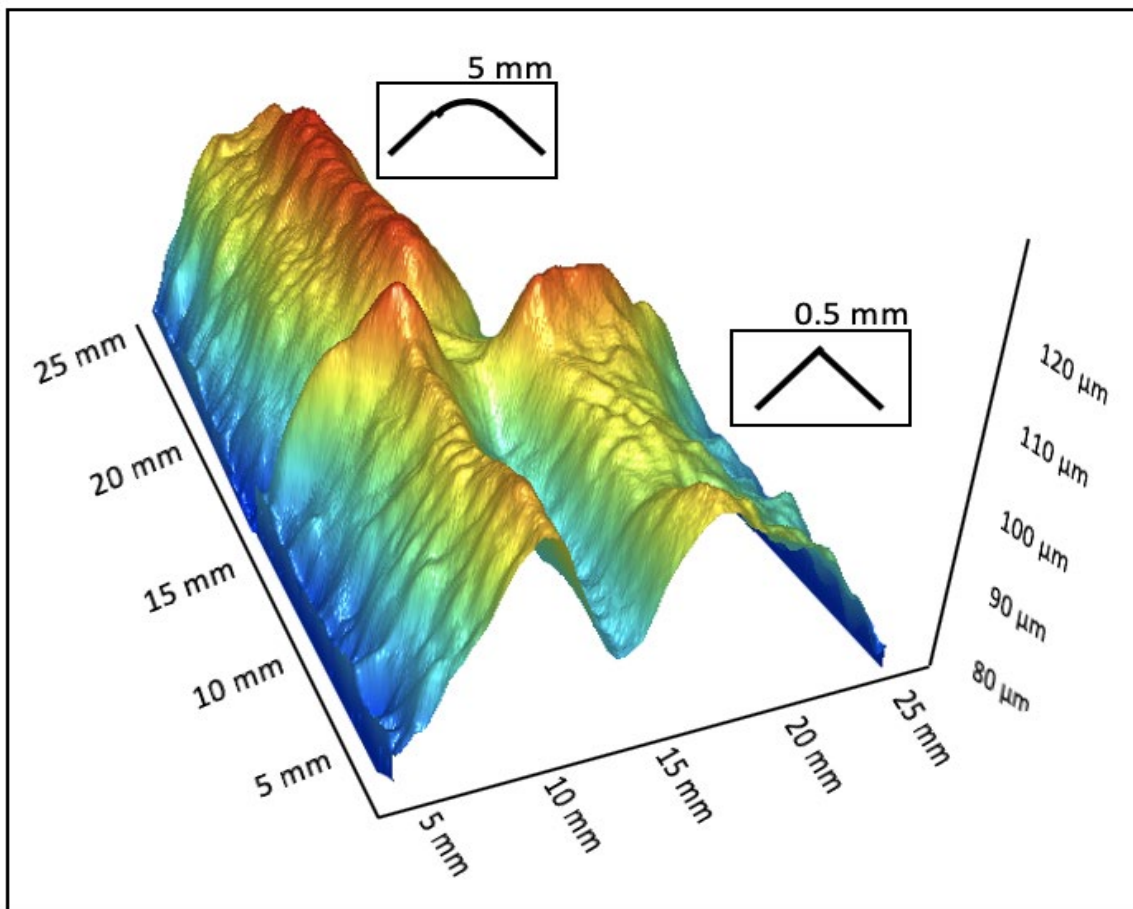

Figure 17 Coating thickness distribution on profiles with different radii of curvature recorded with a coatmaster 3D at-line
4. A subwindow will appear where you can enter the thickness of the coating of this particular point and label the point accordingly (see Figure 17)
After connecting with the coatmaster, start the coatmaster 3D Operating System. The main window opens (see Figure 17).